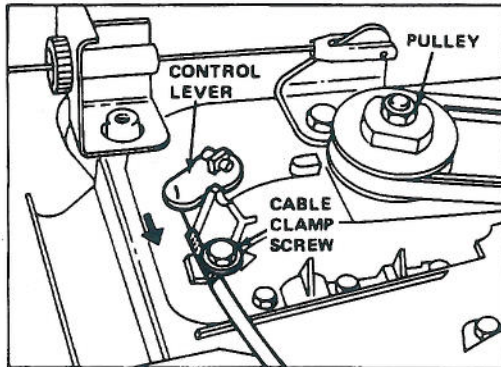

Figure 26
3. ADJUSTMENT (Fig. 26) — Loosen cable clamp screw until cable conduit slides. Push transmission control lever toward cable clamp screw and hold lever in place. Pull cable to remove slack and tighten clamp screw.
4. CHECK ADJUSTMENT — Assure ground speed control is in "N" and pull mower backward. Pulley (Fig. 26) should not rotate. If pulley does rotate, readjust for neutral: refer to step 3.